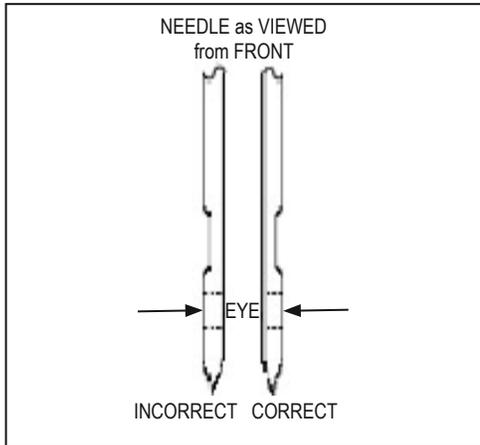

FIG. 41
3. Install new needle correctly with the scarf to the inside of the machine (Figure 41).